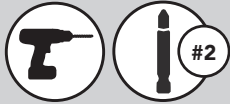
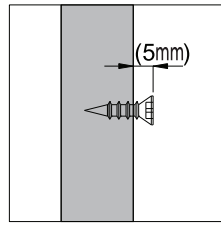

FIGURE 10A
FIGURE 10B
Drive (2) M6 screws into only the top (2) pilot holes (See Fig. 10A). Position the door so the screws fit into the T-Type door mount bracket (See Figure 10B). Making sure the door is oriented correctly, and using (2) #8 1/2" wood screws, fasten the bottom door mount bracket to the door and tighten top screws (See Fig. 10C).